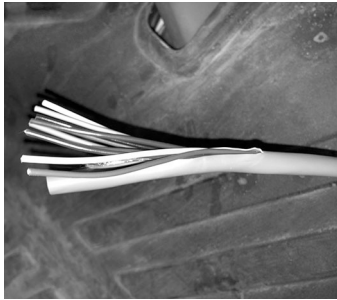

FIG. 63
1. Use a wire stripper to remove 3 inches of outer jacket from the each of the wiring harnesses (FIG. 63).